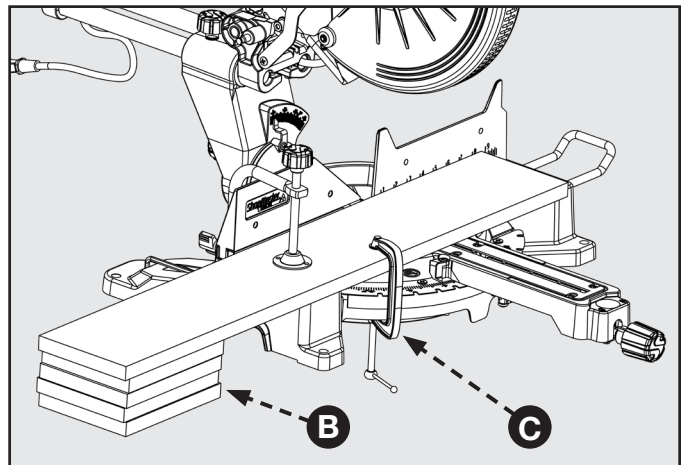

FIGURE 21
In most cases the included table extensions (workpiece supports) will be sufficient to support longer workpieces. If these are not long enough, the workpiece should be supported further out from the saw. Additional support (B) may be used to make the workpiece lay flat on the saw table. Use the included work clamp or a C-clamp (C) to secure the workpiece to the miter saw table. See Figure 21.